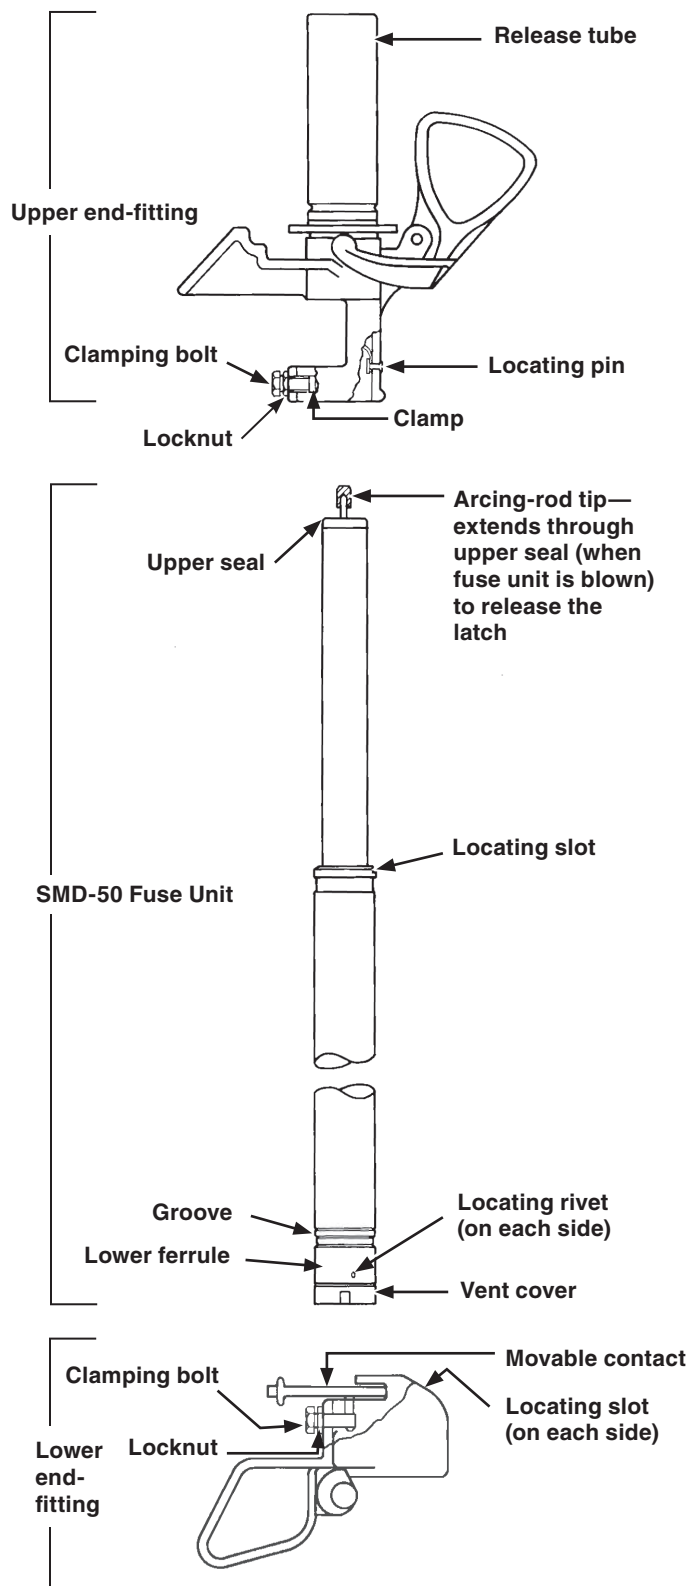

Figure 5. SMD-50 Fuse Unit with end-fittings.
- STEP 1.** Check the upper end-fitting to make sure the release tube slides freely. See Figure 5. If it does not, use a new upper end-fitting.
If the vent cover is missing, the fuse unit is likely blown. See Figure 5 on page 10. However, if the vent cover is in place, it should not be assumed that the fuse unit is unblown. Double-check for a blown fuse unit by examining the release tube; it will be extended if the fuse unit is blown.